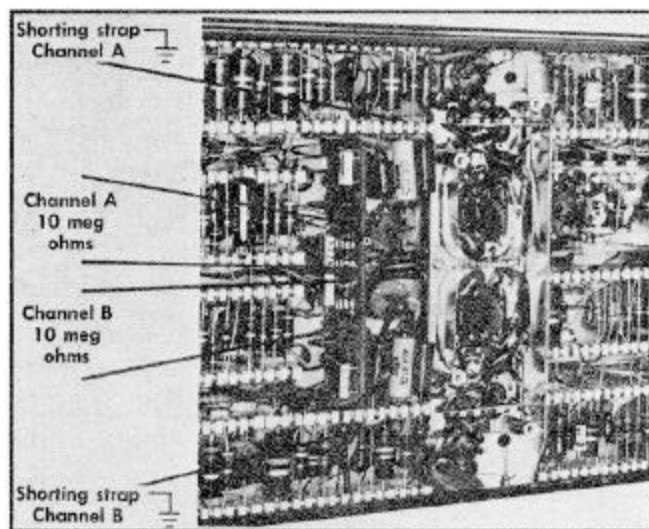

Fig. 6-4. A 10-megohm resistor connected across C1132 and R1148 shorted to ground (description on following page).
1. Place a shorting lead between the upper end of R1148 and ground (see Fig. 6-4).
2. Place the 10-megohm resistor (item 15 in Equipment Required) across C1132.